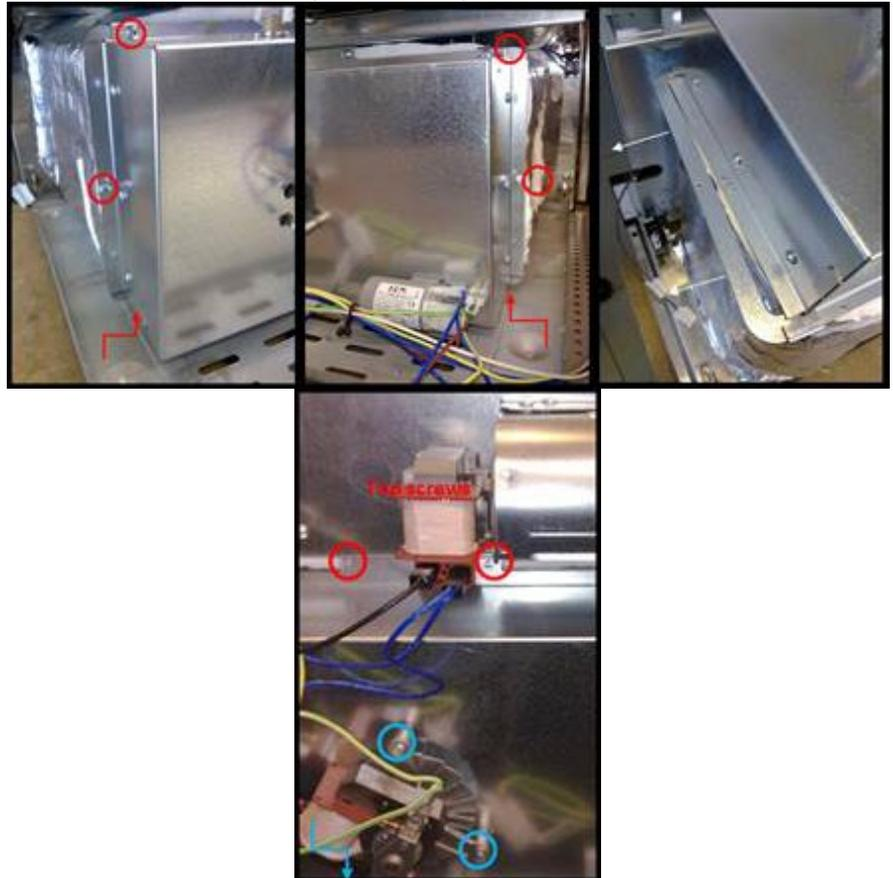

Figure 1
3. Disassemble the brackets by removing their three screws each (fig.1).